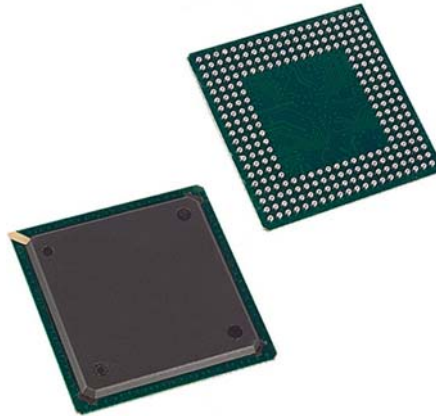

Figure Q6[a]
- Q6. [a] Refer to Figure Q6[a]. Identify the type of package of this electronic component and briefly describe the processes involved in the manufacturing of this package.**
- [b] If the package in Figure Q6 [a] is a component of a system board, how will you mount this package onto a printed circuit board (PCB) of a system board? Please discuss.**